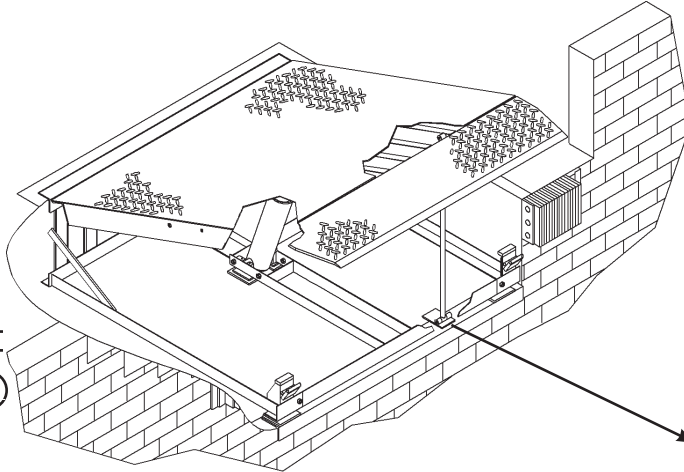

Figure 17
Whenever maintenance is to be performed under the dock leveler platform, support the platform with maintenance prop (C). Position the maintenance prop behind front header plate (D) while staying clear of the lip. The lip will fold down after the platform has rested on the maintenance prop. Lock the maintenance prop in the service (upright) position using an OSHA approved lockout device* (B) and tag out device* (A). See Figures 17 and 18.